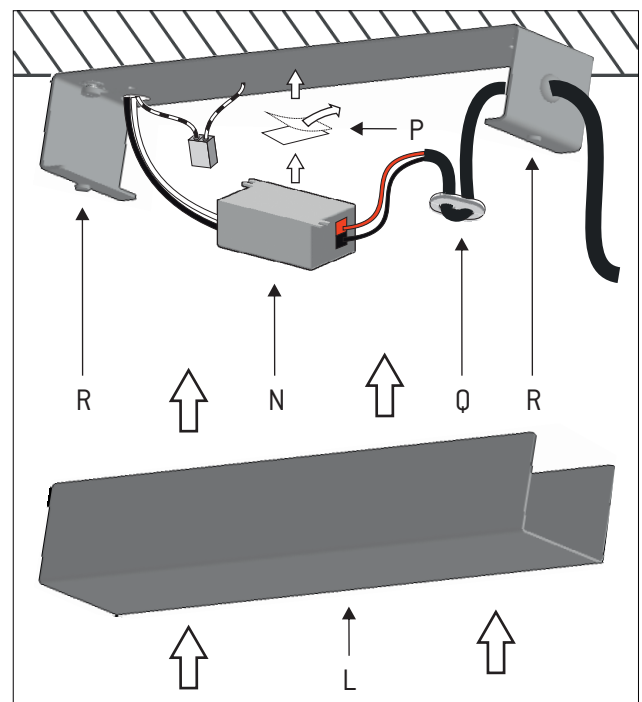

Figure 11
11 - Connect the driver (N) to the electrical cable from the ceiling and fix it to the mounting bracket with double faced tape (P). Pass the electrical cable of the lamp through the lateral hole of the mounting bracket. Adjust the cable to the desired length and fix it using the cable ties (Q). Cut the excess cable and make the electrical connections. Place back the canopy (L) and make sure that it is fixed with the mounting bracket through the magnets (R). Figure 11